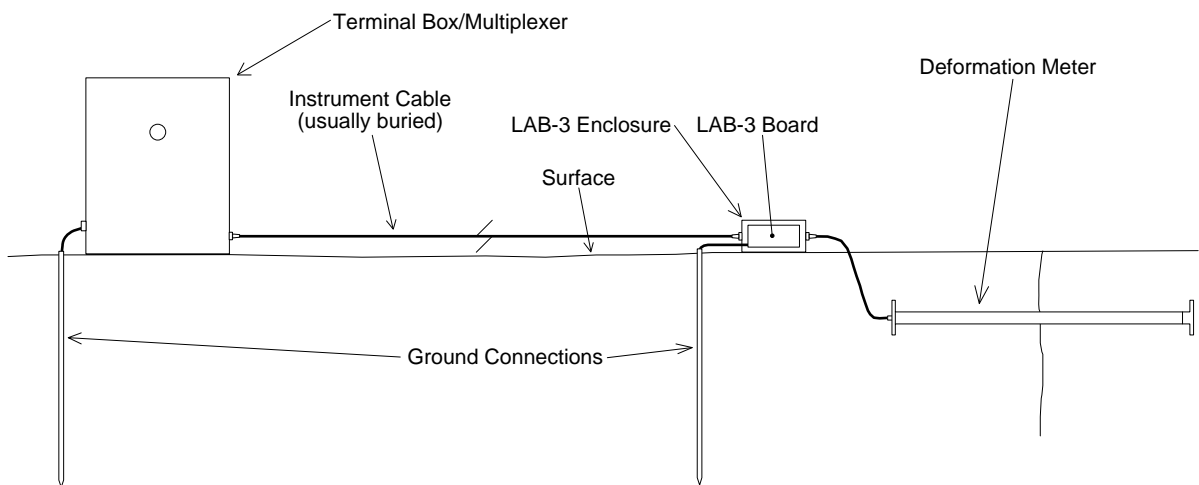

Figure 5 - Lightning Protection Scheme
| FIGURE 5 - LIGHTNING PROTECTION SCHEME | 5 |
- Lightning arrestor boards and enclosures are available from Geokon that install near the instrument. The enclosure has a removable top so, in the event the protection board (LAB-3) is damaged, the user may service the components (or replace the board). A connection is made between this enclosure and earth ground to facilitate the passing of transients away from the gage. See Figure 5. Consult the factory for additional information on these or alternate lightning protection schemes.